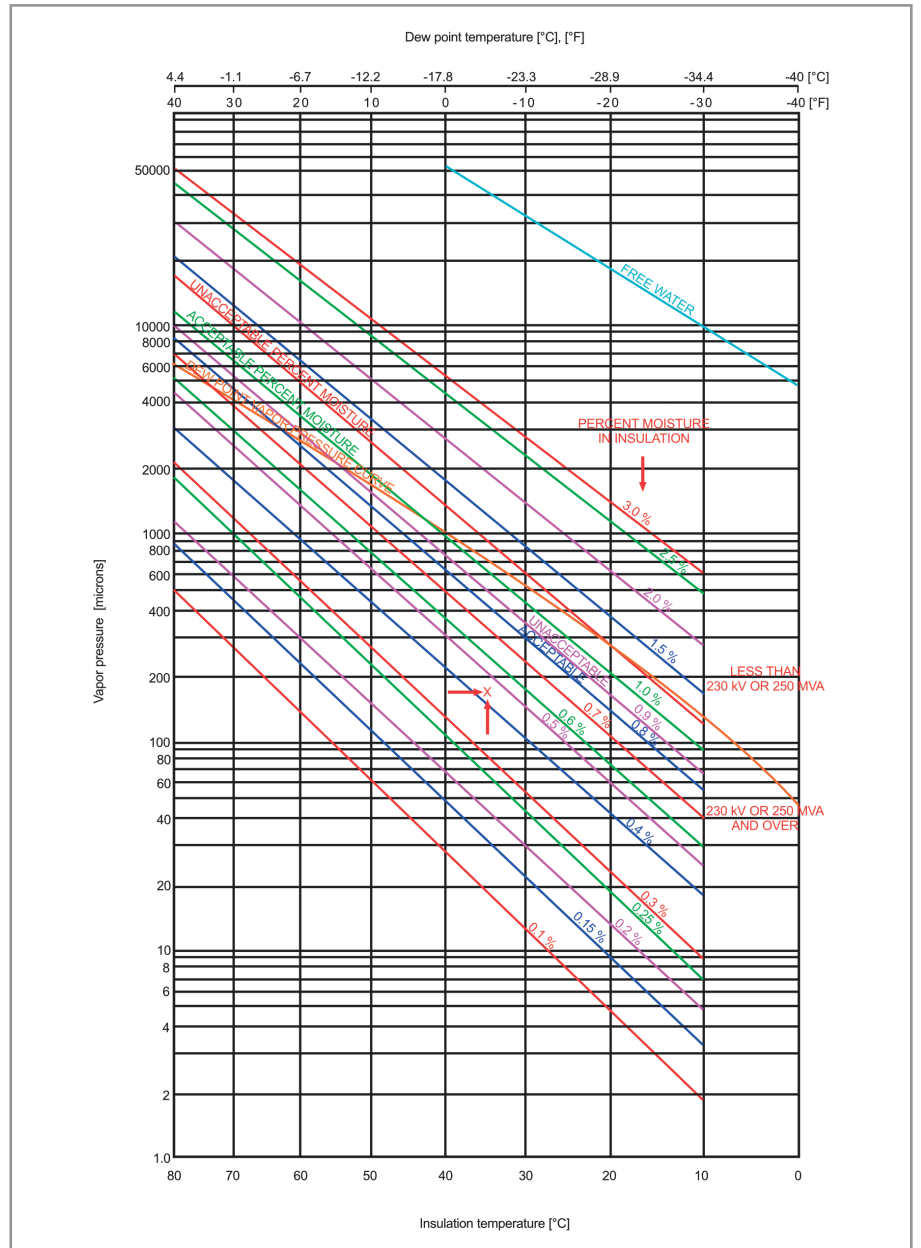

Figure 11. Piper chart (moisture equilibrium diagram)
**Vacuum level & coil temperature:** Piper charts like the one in Figure 11 provide a good indication of the water content remaining in the coil based on its temperature and the final vacuum level achieved. Often there is a hold time that must expire after achieving the vacuum level target with coil temperature maintained above a minimum value to reach the desired dry point as indicated by the chart.